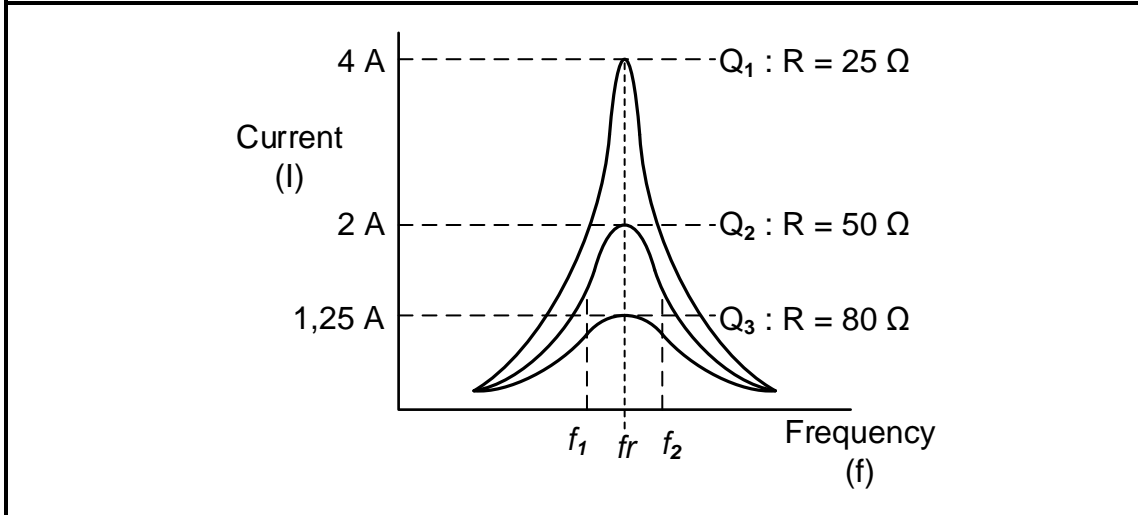

FIGURE 3.4: FREQUENCY RESPONSE
3.4 FIGURE 3.4 below shows the current vs frequency response curves of a series resonant circuit with a variable resistor. The inductive reactance of the circuit is $2\,000\ \Omega$ at resonance and each response curve is for a different resistance value.